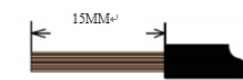

Figure 3
3. The wiring is sequential; Firstly, peel the wire, with a recommended peeling length of 15mm, as shown in Figure 3; Secondly, the wire passes through the PG head of ATESS AC-DB-50KTL, as shown in Figure 4; Crimp the terminal onto the wire again, and finally connect the corresponding wire to the corresponding miniature circuit breaker.